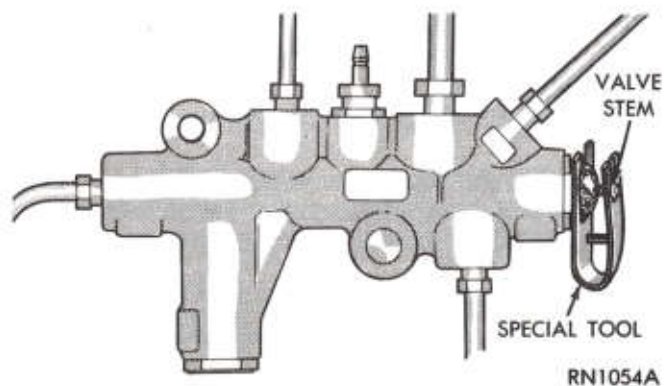

Fig. 2—Extending Valve Stem
(3) **Pressure Bleed:** This method of bleeding is influenced by the hold-off valve. Bleed pressure, normally about 35 psi, is high enough to cause the hold-off valve to close, stopping the flow of fluid to the front brakes. However, the valve (Fig. 2) must be held open manually by using Tool C-4121, to pull the valve stem out.